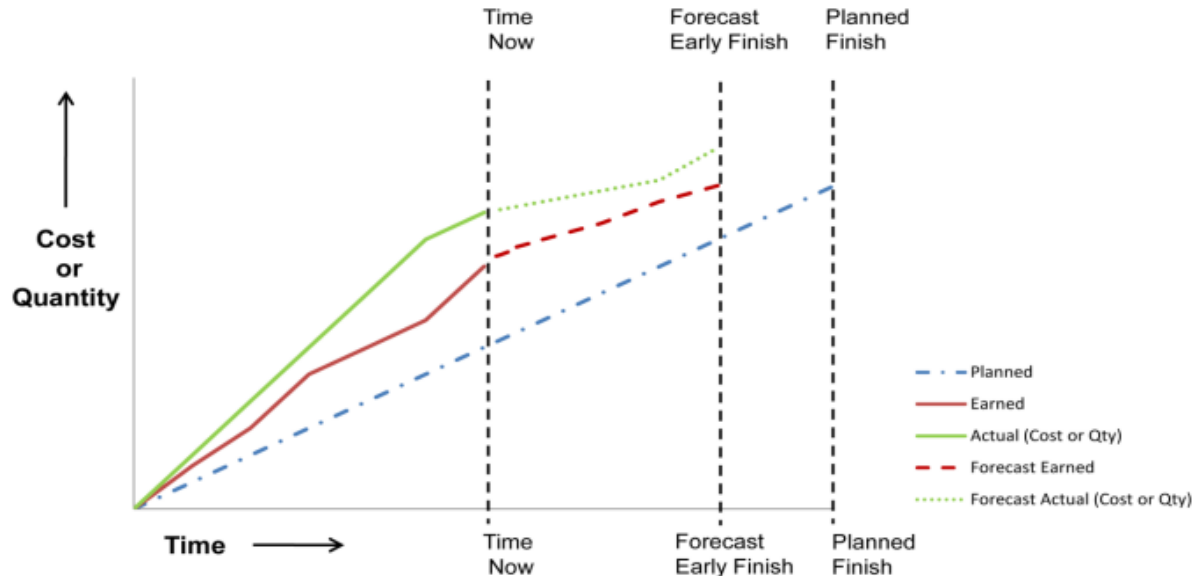

Figure 6 – Earned Value S-Curve
- ❑ In **Figure 6**, the planned line is the **baseline** against which **actual performance** is analyzed.